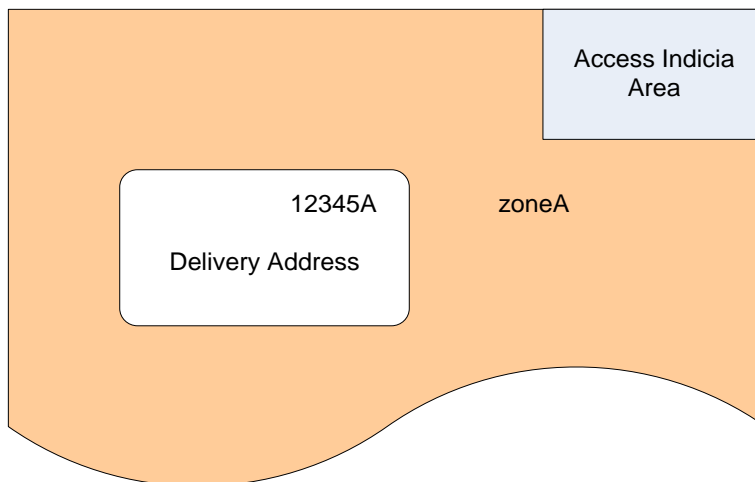

Figure 26: Positioning options for Zonal indicator
4.2 There are two options relating to the positioning of the Zonal Indicator on your Mailing Items (see Figure 26):